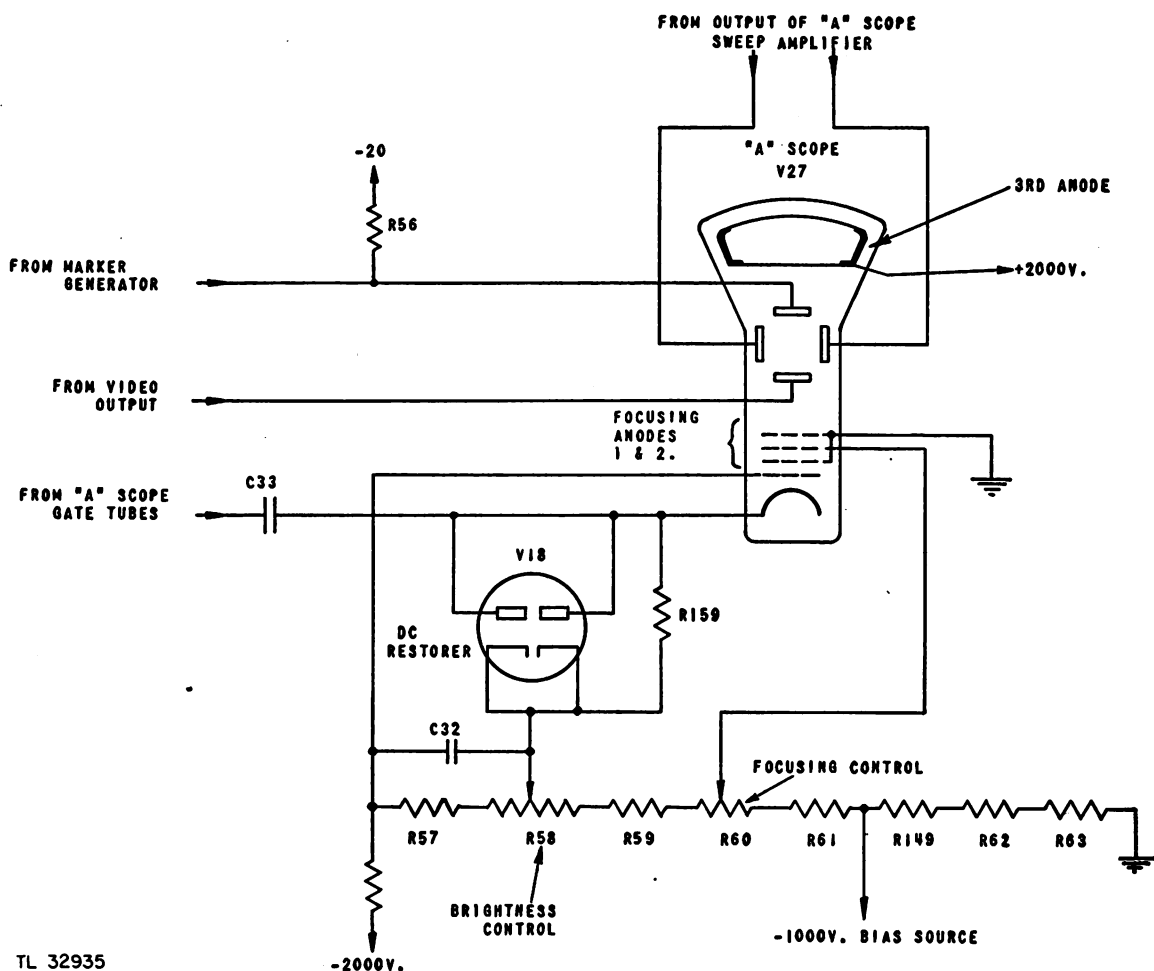
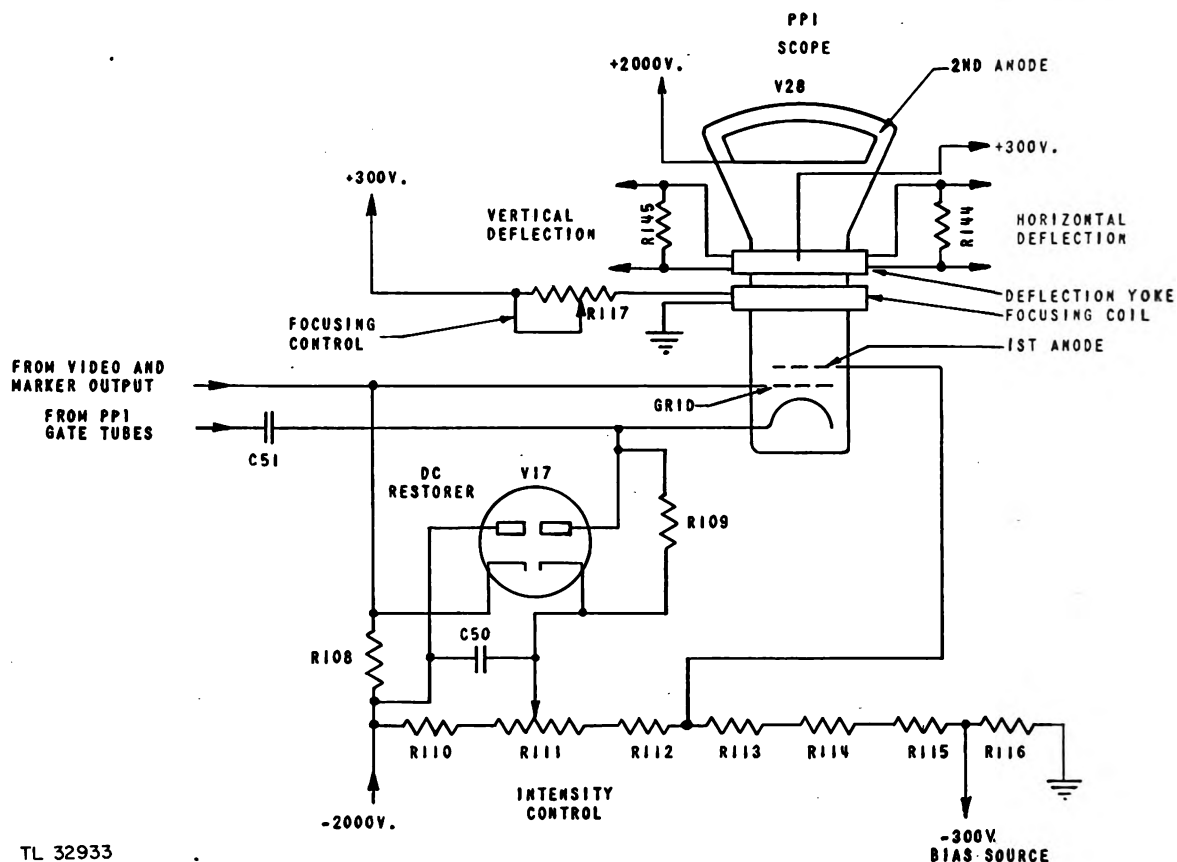

Figure 31. "A" scope functional schematic.
Figure 32. PPI scope functional schematic.
a. "A" Scope Circuit (fig. 31). In the "A" scope circuit, the heater, cathode, grid, focusing anode,
(4) SCREEN. The 5-inch screen of the scope is made of a fluorescent material which glows at the point where it is struck by the electron beam. Since the position of the electron beam will vary, dependent upon the sweep and signal voltages applied to the deflection plates, the position of the glowing spot on the screen will likewise vary. The speed of movement of the spot, however, is so rapid that, to the human eye, it appears as a line, a waveshape, or a pattern, dependent upon the voltages impressed on the deflection plates.
b. PPI Scope Circuit (fig. 32). The PPI is a cathode-ray tube of the magnetic deflection type. Similar to the "A" scope in many respects, the PPI scope also requires a 4,000-volt potential difference between cathode and final anode. The cathode is kept at 2,000 volts below ground, while the second
The positive voltage used to blank the "A" scope is taken from the junction of resistors R69 and R70 in the plate circuit of the multivibrator tube V12b; (see indicator schematic, figure 39) and is coupled to the cathode of the "A" scope through capacitor C33 (fig. 31). The positive voltage, during the inactive part of the cycle, does not affect the cathode potential of the "A" scope due to the action of the d-c restorer tube V18 which conducts during this period. The low resistance of the tube, when conducting, keeps the cathode of the scope at approximately the same potential as the intensity potentiometer R58. The potential at potentiometer R58 is sufficiently positive in relation to the more negative grid so that the "A" scope is kept inoperative during the inactive part of the cycle. However, during the active part of the cycle, the plate of tube V12b drops in potential. This drop in potential (negative gate) drives the plate of V18 negative and hence it no longer conducts. Thus the d-c restorer prevents the cathode from going positive but has no effect when the cathode is driven negative. Therefore, the potential on the cathode of the "A" scope becomes less positive with respect to the grid, and the scope is unblanked for the duration of the sweep.
The positive voltage used to blank the tube is taken from the junction of resistors R124 and R125 in the plate circuit of the tube V11b. See indicator schematic, figure 39. The d-c restorer tube employed in this blanking circuit is V17b (fig. 32). Since the PPI scope is intensity modulated, negative surges build up a charge on coupling capacitor C7 (to the video amplifier output). To prevent the effect of negative surges, the first section of the d-c restorer, tube V17a, is connected across resistor R108 in the grid circuit. Tube V17a conducts with a negative surge and bypasses this unwanted voltage.
(d) *D-C Restorers.* The d-c restorer tube V18 (fig. 31) also serves to keep the sweep trace on the "A" scope in a stable position. Likewise, tube B17 (fig. 32) keeps the intensity modulation of the PPI scope constant for the sweep trace. The average potential of the sweep-voltage pulses varies for the different ranges. The d-c restoring action of tubes V17 and V18, eliminates varying average potentials and maintains stability of sweep-trace action.
(1) **RANGE MARKERS.** The negative 10-mile and 50-mile range marker pips, taken from the plate of range mixer tube V10, are fed through capacitor C34 directly to the upper vertical deflection plate of the "A" scope (fig. 31). The negative waveshapes deflect the electron beam in a downward direction so that the marker pips appear below the trace line, spaced at 10-mile intervals with every 50-mile marker on enlarged pip.